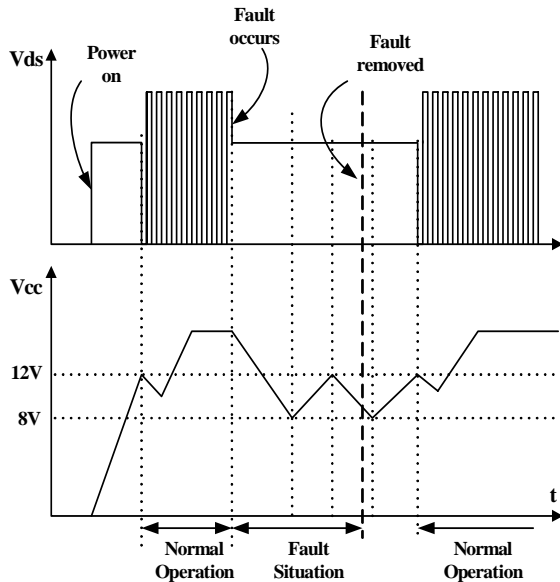

Figure 19. Auto Restart Operation
3. Protection Circuit: The FSCM0765R has several self protective functions such as over load protection (OLP), over voltage protection (OVP) and thermal shutdown (TSD). Because these protection circuits are fully integrated into the IC without external components, the reliability can be improved without increasing cost. Once the fault condition occurs, switching is terminated and the SenseFET remains off. This causes Vcc to fall. When Vcc reaches the UVLO stop voltage of 8V, the current consumed by the FSCM0765R decreases to the startup current (typically 25uA) and the current supplied from the DC link charges the external capacitor (C_a) that is connected to the Vcc pin. When Vcc reaches the start voltage of 12V, the FSCM0765R resumes its normal operation. In this manner, the auto-restart can alternately enable and disable the switching of the power SenseFET until the fault condition is eliminated (see Figure 19).